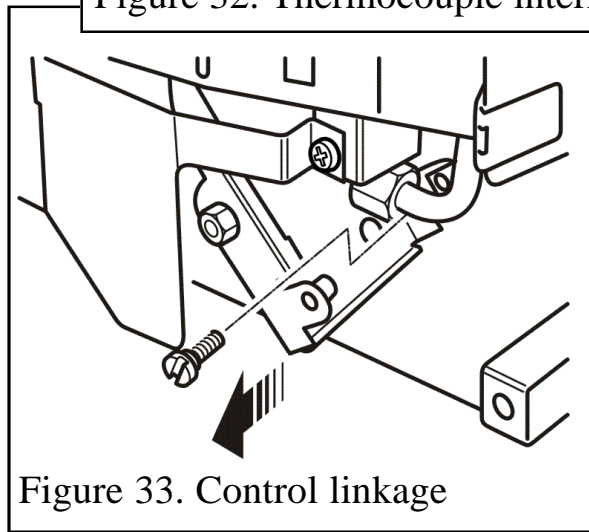

Figure 33. Control linkage
2. Detach the control-linking bar from the control pivot bracket by removing the knurled screw, which joins the control linking bar to the control pivot unit (See figure 33).